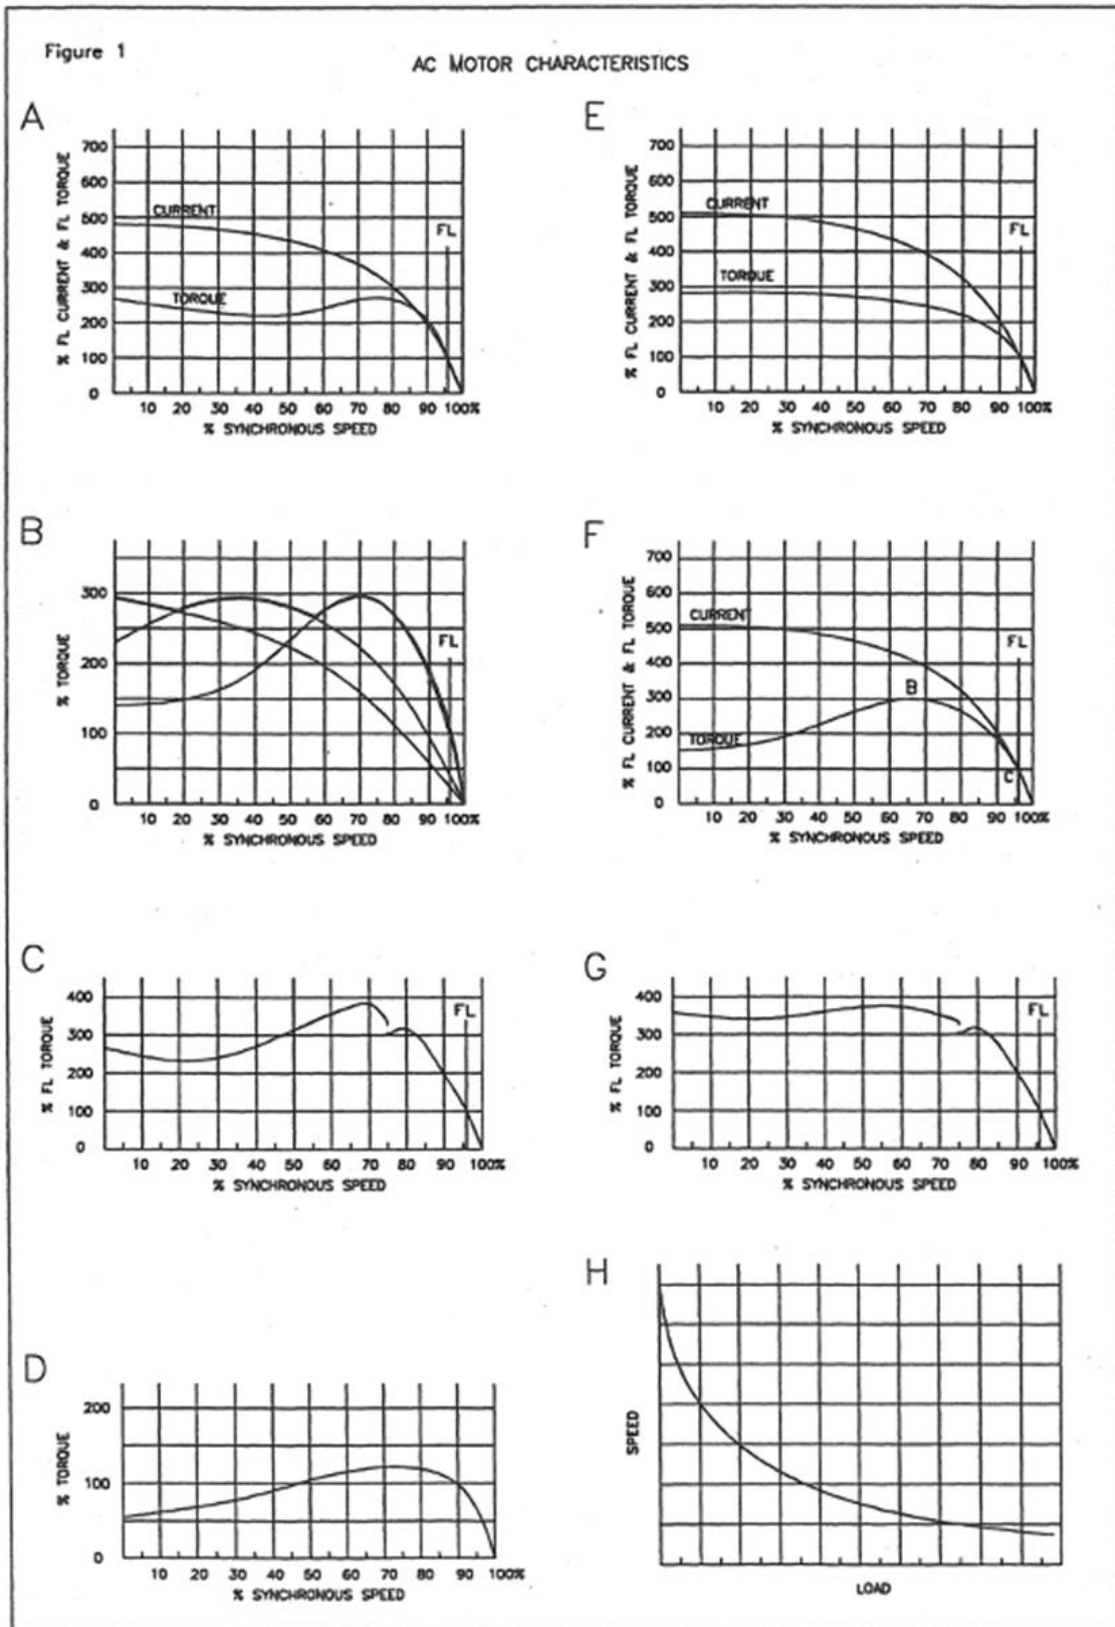

Figure 1 – Motor Characteristics
29. Refer to Figure 1.(on following page) Which of the motor characteristic curves represents a typical standard three phase induction motor?
30. Refer to Figure 1. (on following page) Which of the motor characteristic curves represents a typical three phase double cage induction motor?
31. Refer to Figure 1. (on following page) Which of the motor characteristic curves represents a typical three phase high resistance rotor induction motor?
32. Refer to Figure 1. (on the following page) Which of the motor characteristic curves represents a typical three phase wound rotor induction motor?